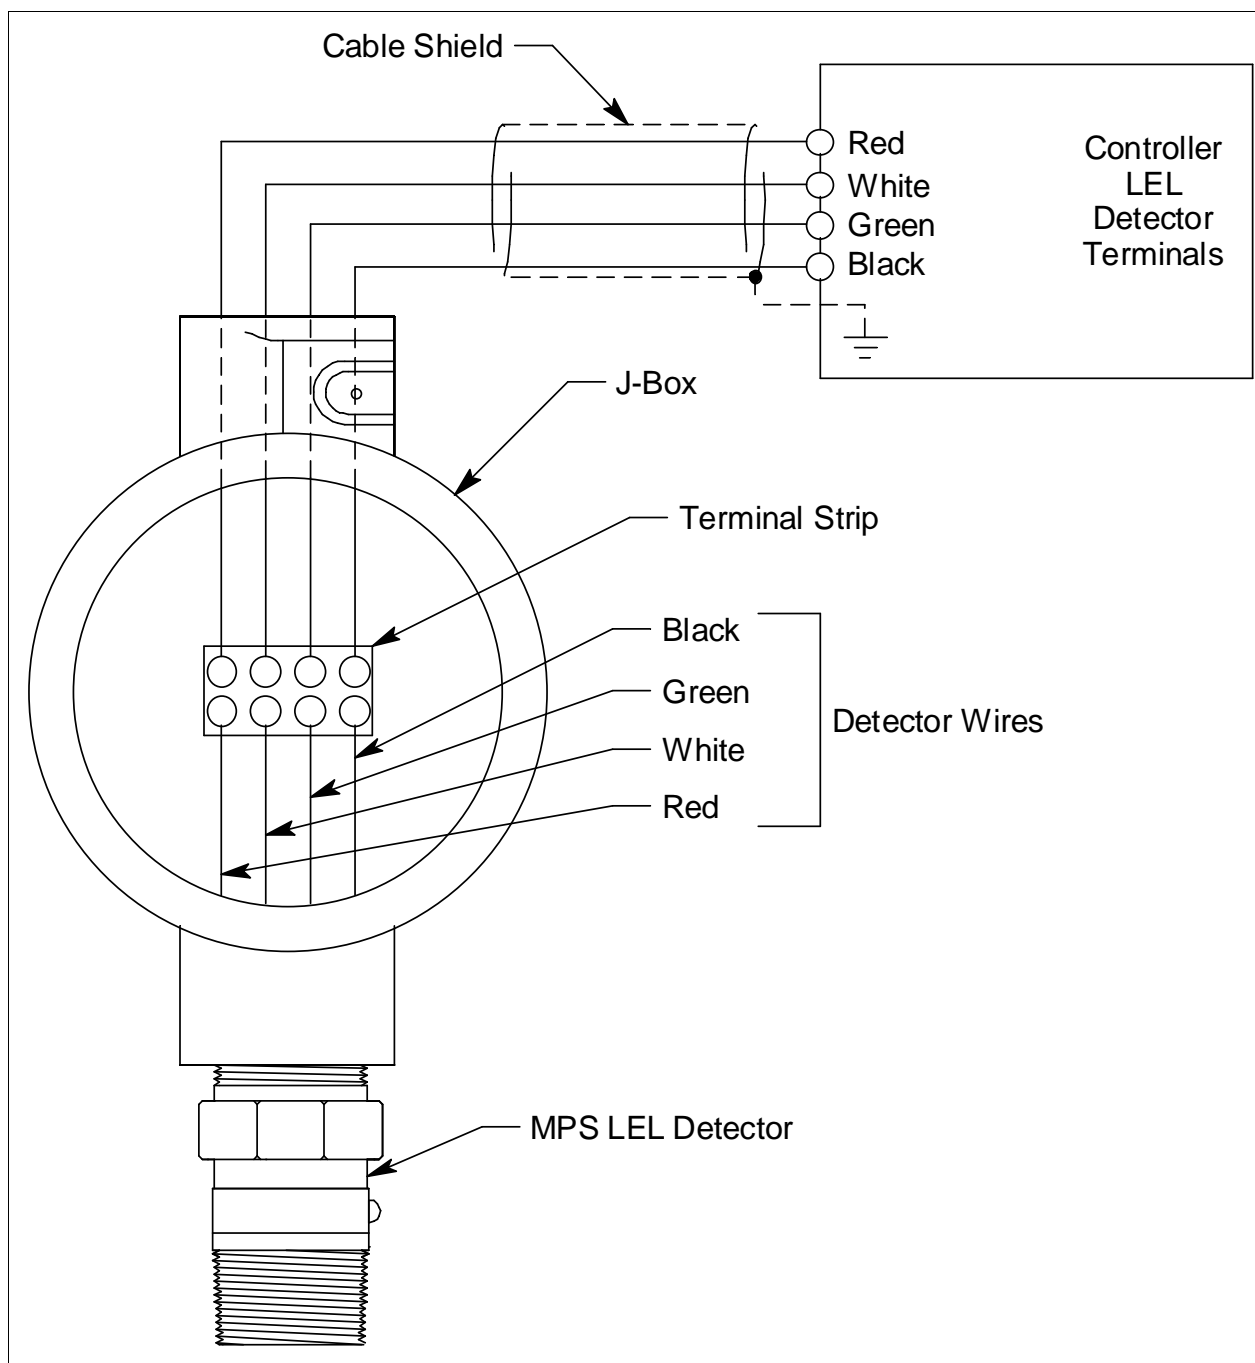

Figure 3: Wiring the Combustible Gas Detector to a Controller
If the detector is mounted directly to a controller, it is normally factory wired. Confirm that the detector's wires are connected to the appropriate controller detector terminals and skip to "Start Up" on page 11. See Figure 3, the controller operator's manual, and the controller's detector head specification sheet for the 61-0230 detector for the wiring connections.
8. If the detector is installed remotely from a controller in a junction box, connect the detector leads to the terminal block the same way the old detector was wired (see Figure 3). See the controller operator's manual and the controller's detector head specification sheet for the 61-1020 detector to verify the connections to the controller are correct.
If the detector is installed directly on a controller, connect the detector leads to the appropriate detector terminal strip terminals. See Figure 3 for wiring to a generic controller. See the controller operator's manual and the controller's detector head specification sheet for the 61-0230 detector for wiring specific to your controller.